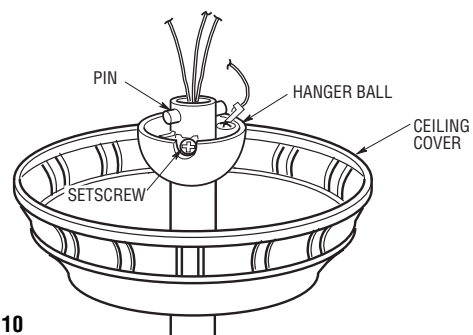

Figure 10
- 15. Reinstall the hanger ball (Figure 10) on the downrod as follows. Route the three 80" motor leads through the hanger ball. Position the pin through the two holes in the downrod and align the hanger ball so the pin is captured in the groove in the top of the hanger ball. Pull the hanger ball up tight against the pin and securely tighten the setscrew in the hanger ball. A loose setscrew could create fan wobble.